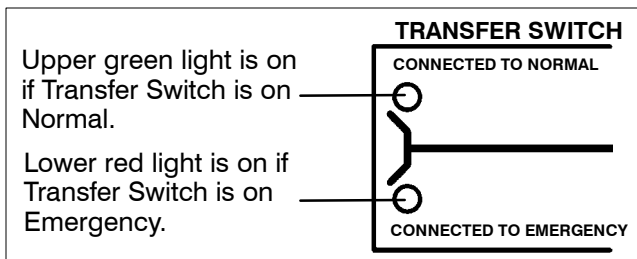

Figure 3-2. Status lights for Transfer Switch main contact position.
1. Observe which *Transfer Switch Connected To* light is on (*Normal* or *Emergency*) on the door. This is the position of the transfer switch (see Figure 3-2).